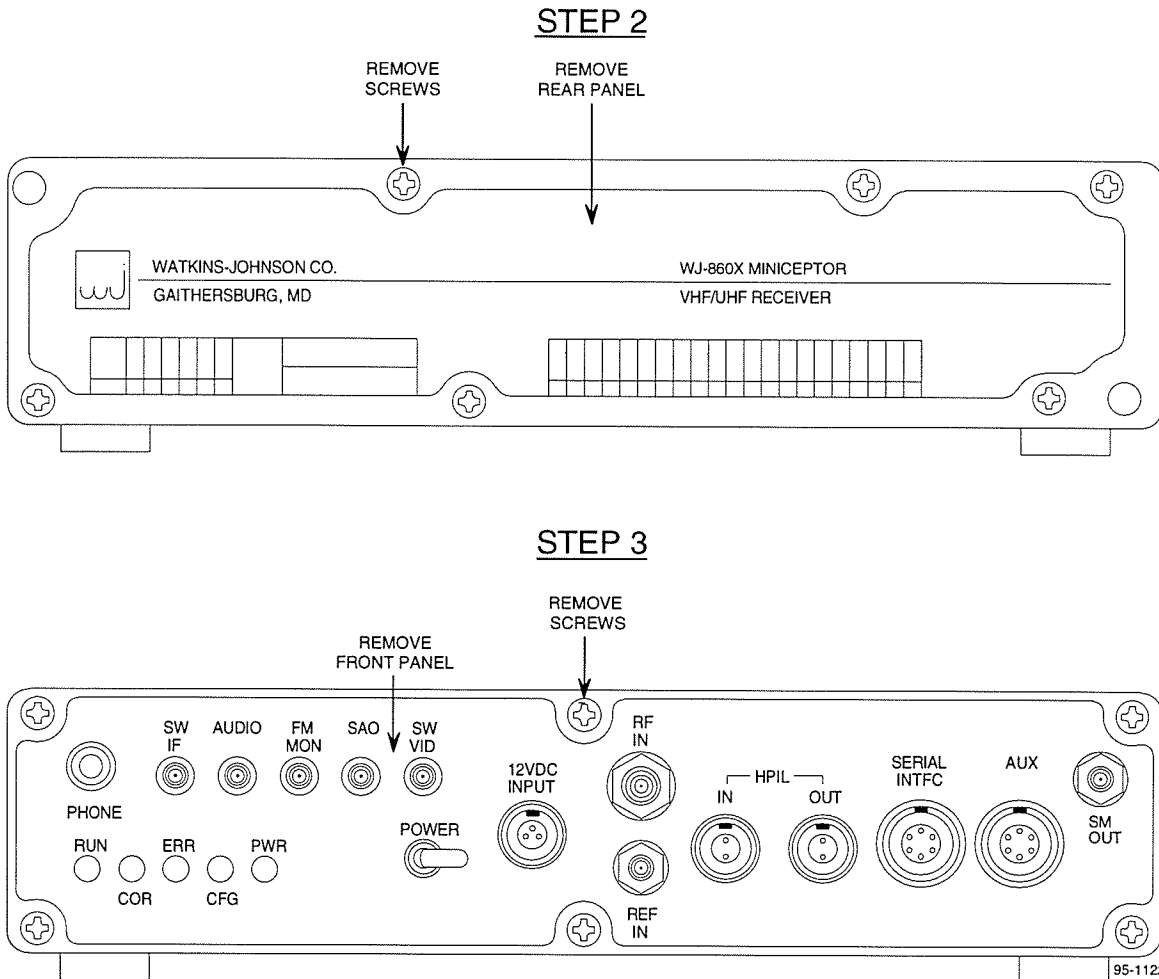

Figure D-1. Removing the Minicaptor’s Front and Rear Panels
2. Referring to **Figure D-1**, remove all screws to detach the rear panel of the Miniceptor.